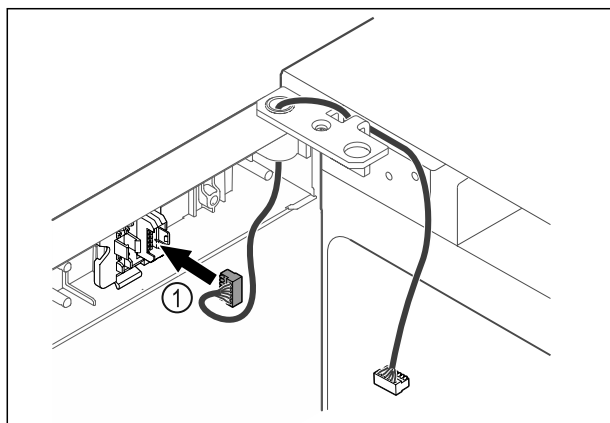

Fig. 39
- Put the plug Fig. 39 (1) in the plug holder.